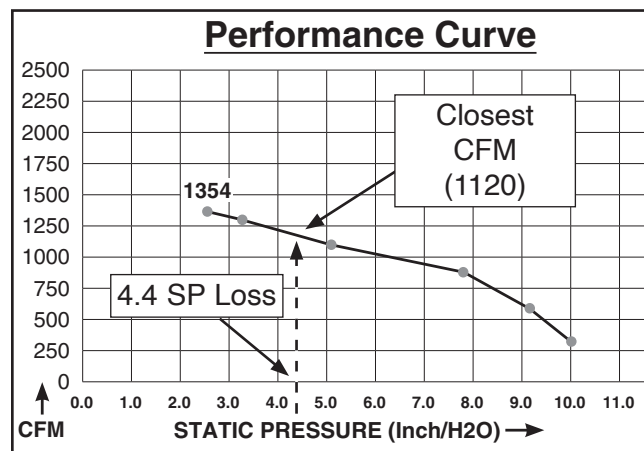

Figure 44. Example CFM for static pressure loss of line connected to a dust collector & router.
5. Compare the total static pressure loss for that line to the closest CFM given in **Figure 44** for your dust collector.
Example: A typical **Data Sheet Performance Curve** is illustrated in **Figure 44**. Find 4.4 on the Static Pressure axis (the amount of total static pressure loss calculated in **Figure 43**), then refer to the closest value on the CFM axis—approximately 1120 CFM.